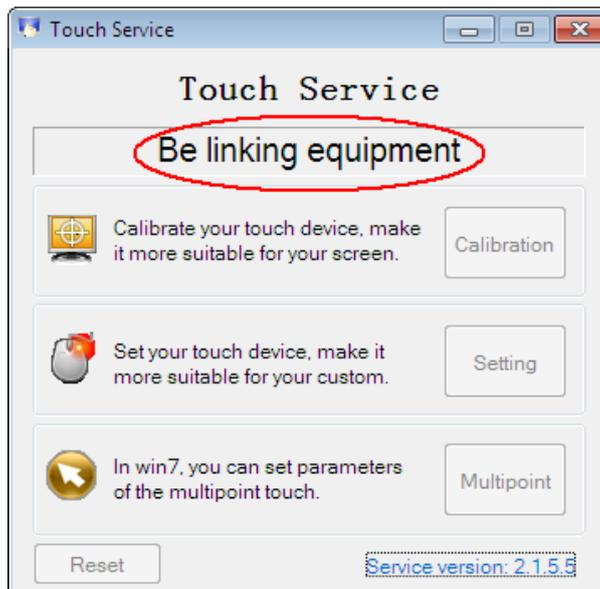

Figure 3-15
2) With the touch panel connected, the notice will be "Be linking equipment" (Figure 3-15).